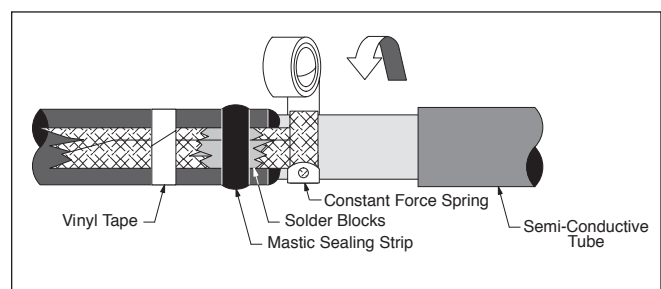

Figure 17
- 6.4 Secure braid with constant force spring. Wrap spring in the same direction as the ground strap and twist the final wrap to tighten (*Figure 17*).
- 6.5 Hold second leg in place with an application of vinyl tape and press solder blocks into mastic (*Figure 17*).
- 6.6 Apply another mastic sealing strip over solder blocks and previous mastic seal (*Figure 17*).